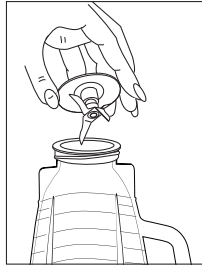

Figure 3
3. Place blade into jar. (Figure 3)